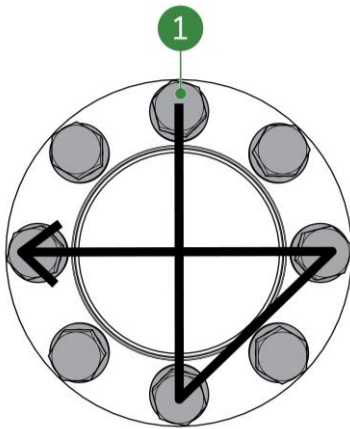

Figure 8-19: Crosswise tightening
14. Place and tighten (crosswise) (Figure 8-19, pos. 1) the bolts and washer at 4.2 Nm (8x).